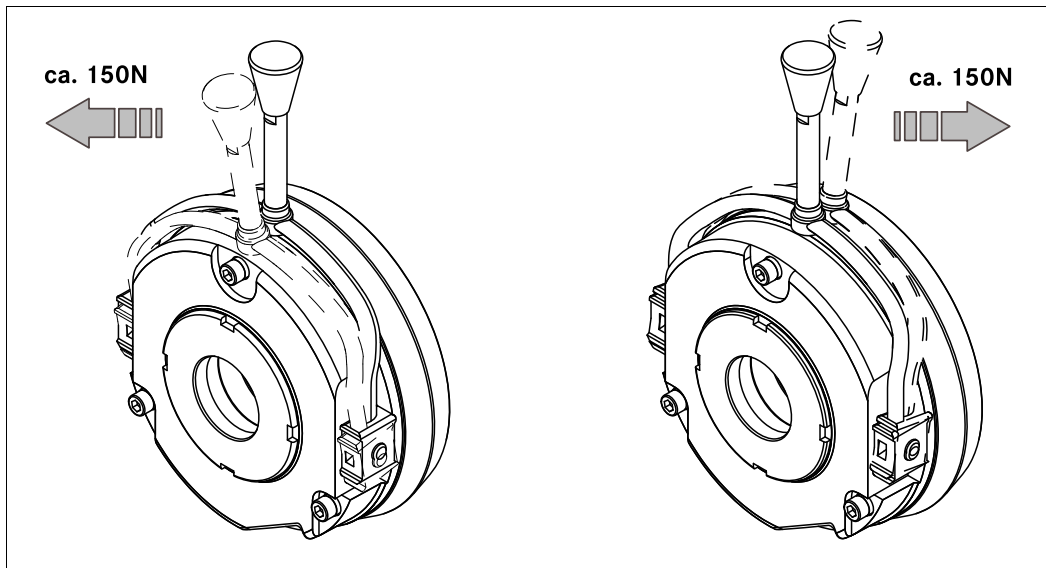

Fig. 20 Operating direction of lever
2. Pull the lever (Fig. 20) until the resistance increases strongly.